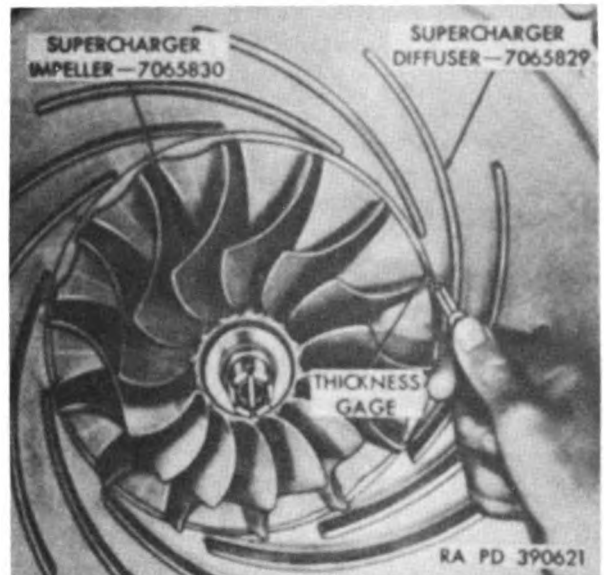

Figure 117. Checking clearance between supercharger impeller and diffuser.
- (3) Install the same number of supercharger impeller shims (L) on impeller driven shaft gear as were removed in disassembly. Install supercharger impeller (K) on shaft gear.
- (4) Install wrench 7083730 (fig. 107) on impeller driven gear and move impeller up tight to diffuser. Check clearance between impeller and diffuser as shown in figure 117. Clearance should be between 0.0300 and 0.0350-inch.
- (5) If clearance is not within limits specified in (4) above, remove impeller (par. 119) and add or remove shims (L), as necessary, to obtain the specified clearance. Install impeller ((3) and (4) above) and again check clearance between impeller and diffuser.
- (6) Install $1\frac{3}{16}$ id, $1\frac{1}{2}$ od, $\frac{3}{32}$ thick flat washer (Q) on impeller driven shaft gear. Install impeller locking nut (J) on shaft gear.